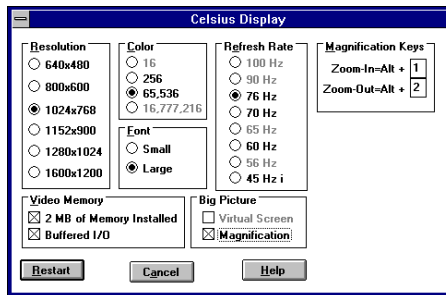

Figure 2.2: Celsius Display Menu
You can use the Virtual Screen option to create a desktop work space (see Figure 2.2). With Virtual Screen, your mouse movement automatically pans the desktop to give you access to any part of your document or window without resizing or using scroll bars. It's an ideal solution for spreadsheet or desktop applications. A large area of display can
2. From the Control Panel window, double-click on the Celsius Display icon. The menu in Figure 2.2 will appear.